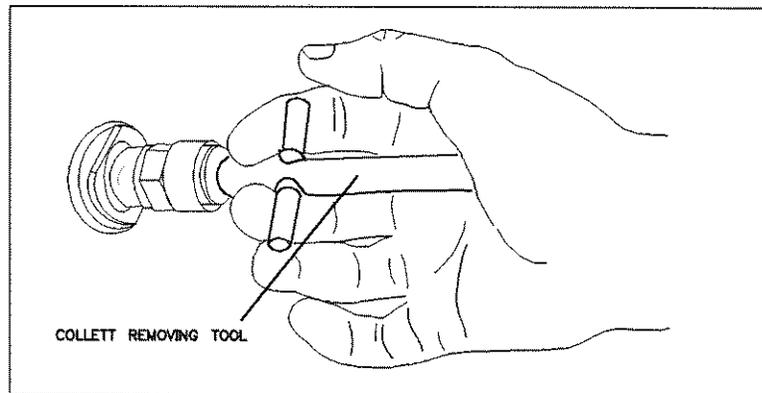

Figure A-1. Using the Collet Removal Tool
3. With the handle pulled back, carefully insert the tool completely into the connector, inside the outer conductor, until it comes to rest lightly on the interior support bead (Figure A-1).